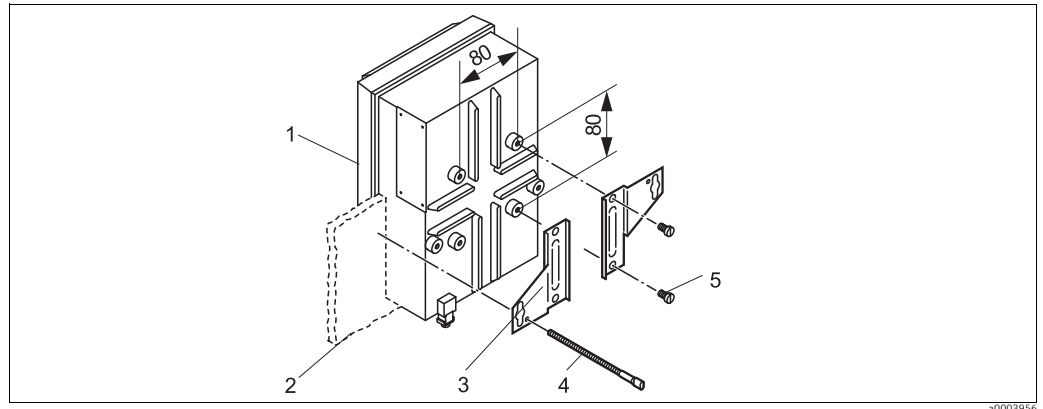

Fig. 10: Panel mounting
2. Unscrew the top housing section (item 1).
3. Secure the securing plates (item 3) to the transmitter housing base using the securing screws (item 5) in accordance with Fig. 10.
4. Secure the transmitter to the panel (item 2) using the clamping screws (item 4).